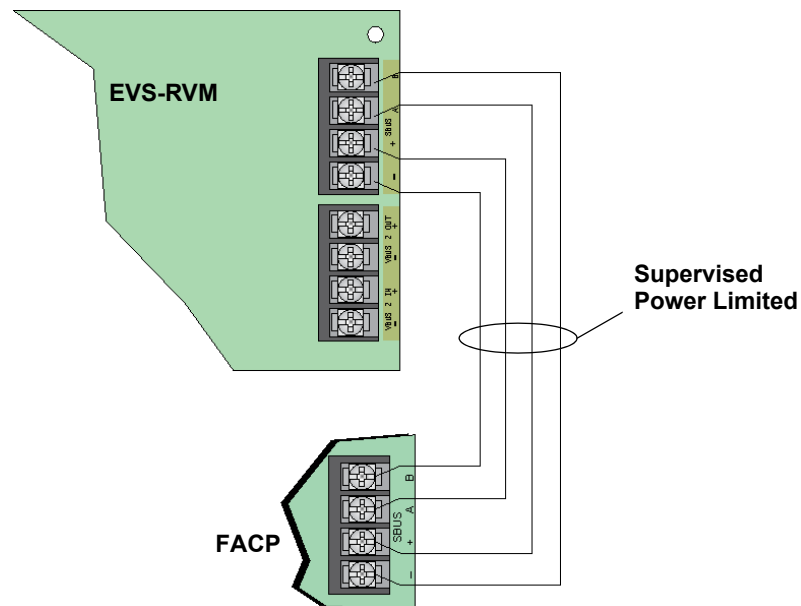

Figure 4-39 SBUS Connections
1. Refer to Figure 4-39 to properly connect the EVS-RVM to the FACPs SBUS.
2. Disconnect the SBUS connections from the SBUS terminals on the EVS-RVM. See Figure 4-39.